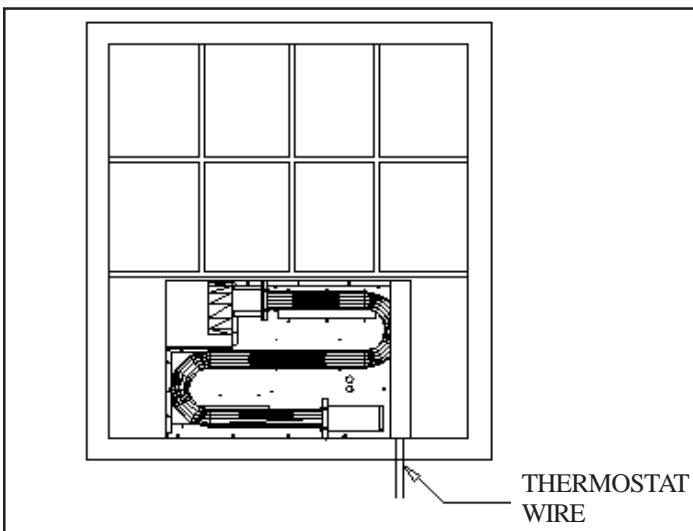

FIGURE 9
- K.) Locate factory installed thermostat wires extending from the front of heater. Connect 24 V. wall thermostat (provided) to heater using a maximum 20' of thermostat wire. Do **not** splice thermostat wire. (See Figure 9).
- J.) Locate factory installed thermostat wires extending from the front of heater. Connect 24 V. wall thermostat (provided) and a maximum 20' of thermostat wire. Do **not** splice thermostat wire. (See Figure 9).
- J.) Locate factory installed thermostat wires extending from the front of heater. Connect 24 V. wall thermostat (provided) using 20' maximum thermostat wire. **Do not** splice thermostat wire. (See Figure 9).